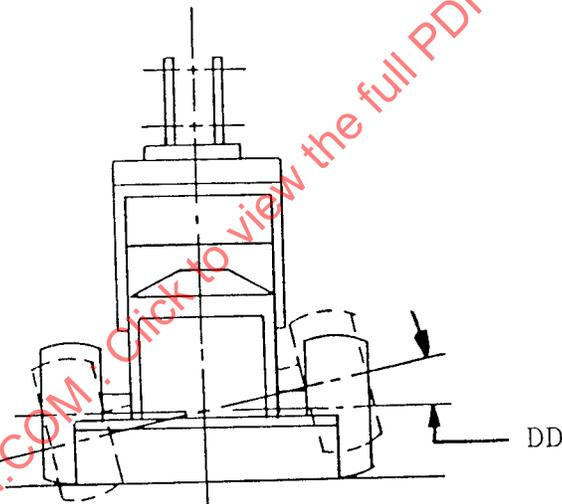

FIGURE 6—AXLE OSCILLATION
**4.33 Axle Oscillation (DD)**—The angle in degrees that one axle will rotate from a horizontal datum, in both directions, without rotating either frame. (Figure 6)